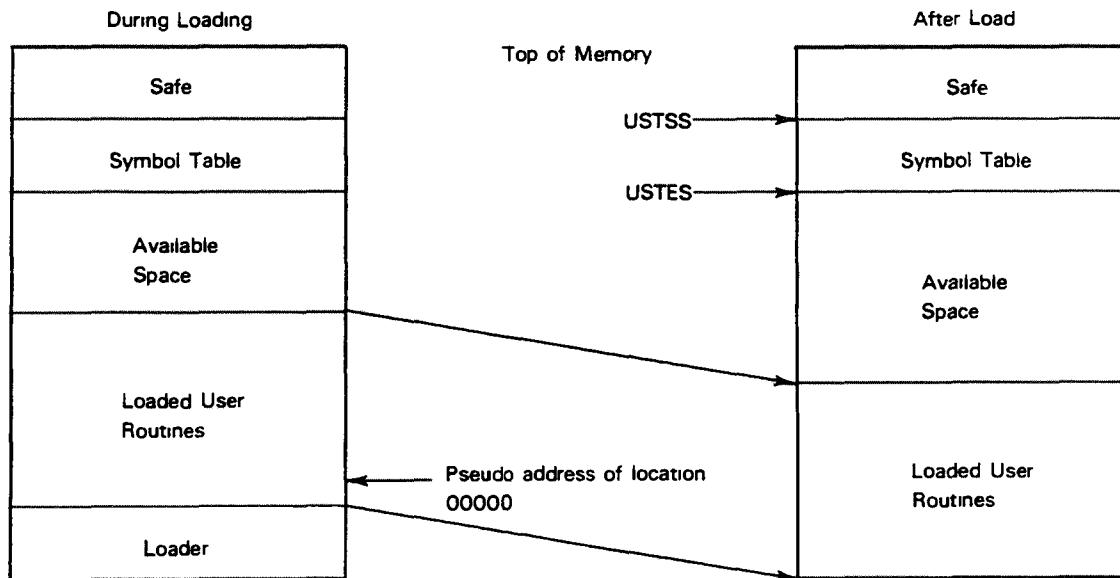

Figure 1.8 Memory map after loader phases
- Memory is shuffled down to reflect the true addresses as shown in Figure 1.8.